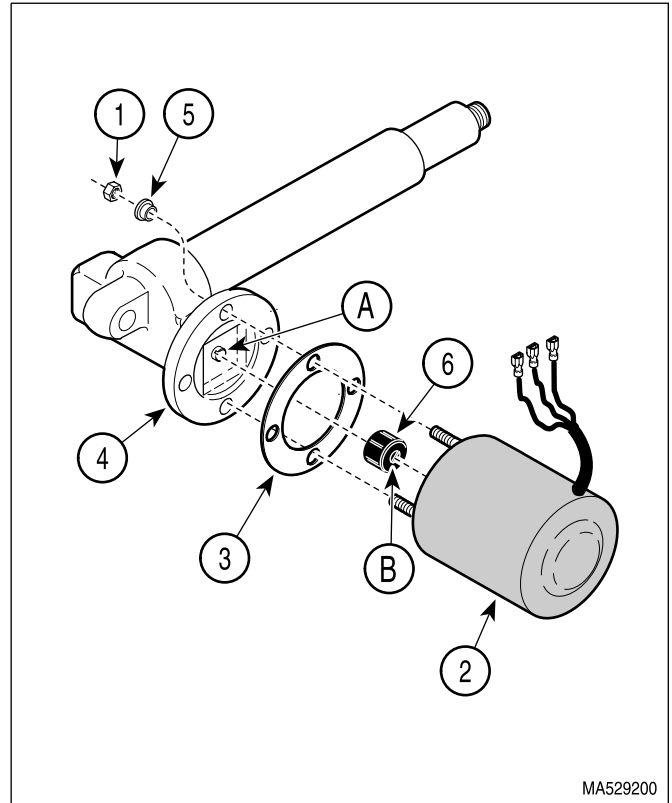

Figure 4-24. Actuator Motor Removal / Installation
- (2) Remove four nuts (1, Figure 4-24), actuator motor (2), and isolation washer (3) from actuator mechanism (4).
- (3) Remove three shoulder washers (5) from actuator mechanism (4).
- (4) Remove motor coupler (6) from shaft of actuator motor (2).